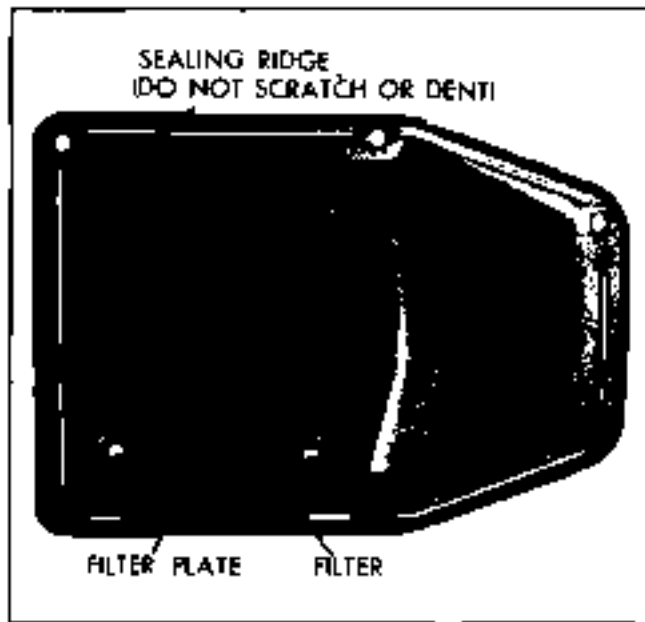

Fig. 15-5 Cover and Intake Filter Assembly
1. Remove screws and cover. To replace air filter in cover, push filter out from under filter plate (Fig. 15-5).